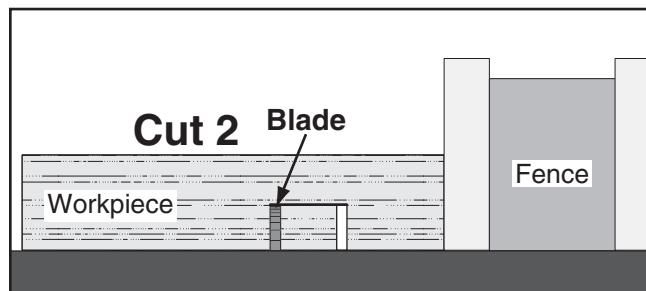

Figure 66. Second cut for a single blade dado.
8. Repeat the cutting operation on the other side of the dado channel, as shown in Figure 66.